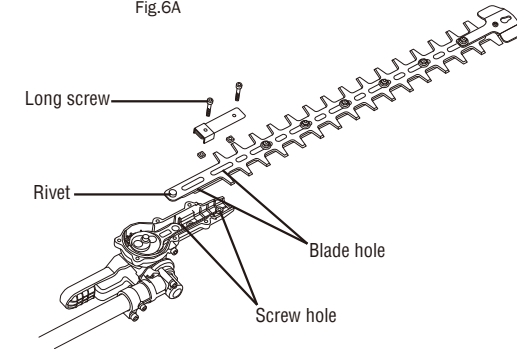

Fig. 6B
3. Keep the holes in the blade, the gaskets, the holes in the pressing plate, and the wool felt in line with the screw holes in the gear case. Install the 2 long screws into the aligned holes and tighten them securely (Fig. 6B).